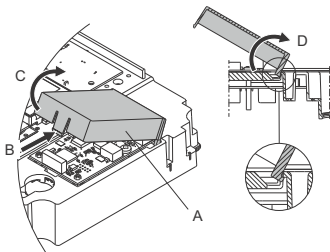

Fig. 72 Removing the CIM cover
2. Remove the CIM cover (fig. 72, A) by pressing the locking tab (fig. 72, B) and lifting the end of the cover (fig. 72, C). Then lift the cover off the hooks (fig. 72, D).